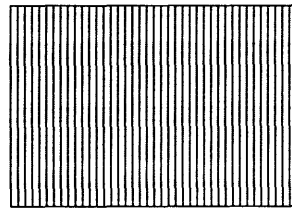

Fig.2
**b) Vertical stripes (Fig.2)**